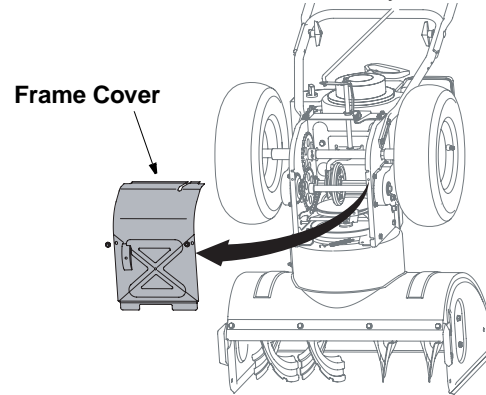

Figure 24
- Tip the snow thrower up and forward, so that it rests on the housing. Remove two self-tapping screws from the frame cover underneath the snow thrower and move the frame cover away. See Figure 24.
- Tip the snow thrower up and forward, so that it rests on the housing. Remove two self-tapping screws from frame cover underneath the snow thrower and move the frame cover away. Refer to Figure 24.
- Remove two self-tapping screws from frame cover underneath the snow thrower and move the frame cover away. See Figure 24.